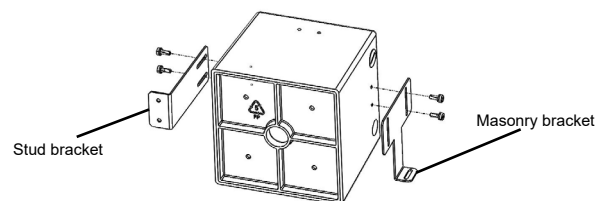
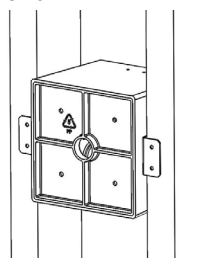

Figure 2a:
Figure 2b:
2. Adjust the brackets so that the front face of the installation housing will be flush with the finished wall surface after installation, Figures 2a / 2b.
3. Secure the mounting brackets to wood or metal horizontal blocking using hardware (by others) as shown in Figure 2a OR to masonry unit using hardware (by others) as shown in Figure 2b.